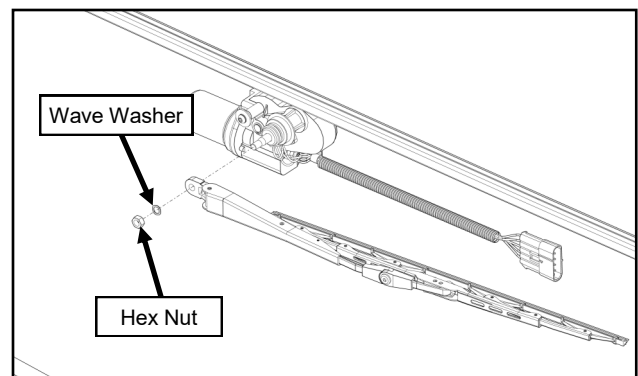
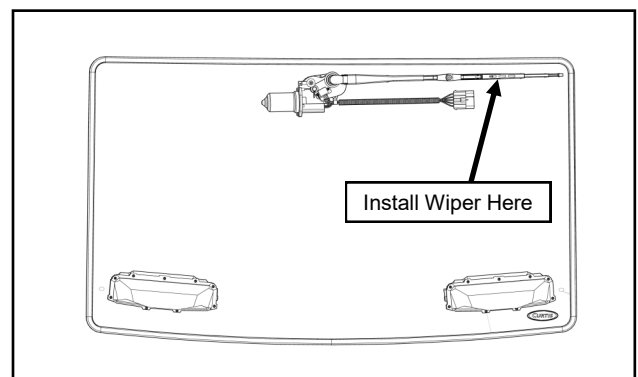

Fig. 1.15a (Install Wiper Arm onto Wiper Motor)
Fig. 1.15b (Install Wiper Arm, Left Side)
1.15 Per figures 1.15a, b & c, install wiper arm onto the wiper motor with the remaining hardware found in the wiper hardware mounting kit. Make sure that the wiper blade is placed horizontal on the left side of the windshield as shown in figure 1.15b. Adjust wiper arm length as needed. To adjust the wiper arm's length, pry open the catch found on the wiper arm, adjust arm length and close the catch back up.